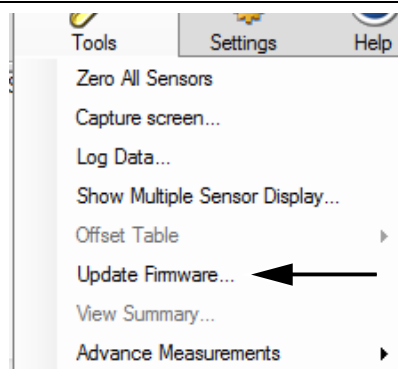

Figure B-2. Update Firmware
2. Launch the Update Firmware command from the **Tools** menu. See Figure B-2.